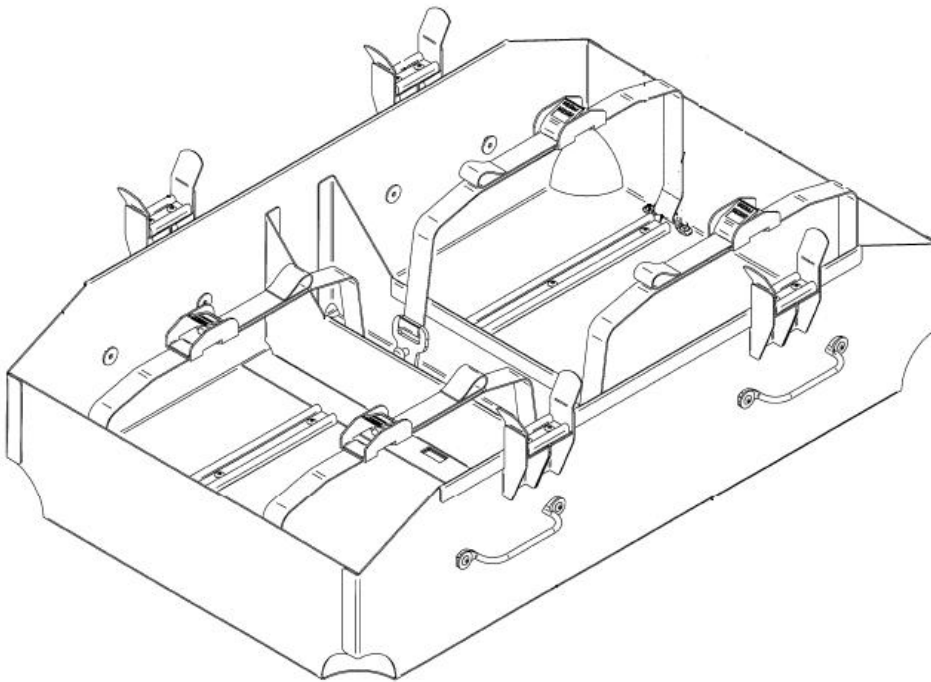

Figure 30 Under Tray Bin Assembly
66. **Under Tray Bin Assembly.** The under tray bin assembly (Figure 30) can carry two jerricans and is secured under the rear body similar to a spare wheel on other variants. The under tray bin assembly is winched up under the rear body by placing the chain through the centre of the under tray bin assembly and using the wheel brace on the winch drive behind the left-hand rear wheel. The winch mechanism contains a brake that positively locks the under tray bin assembly in place. Four locating brackets align the under tray bin assembly with the chassis. Straps are provided to secure the jerricans.
67. **Cargo Restraint System.** The cargo restraint system in the rear body consists of strap assemblies for packs (Figure 30, Items 1 and 3), jerrican straps (Items 2), cam pole straps (Items 4), a long pole retainer bracket located under the seat and ammunition stowage straps (Items 5).